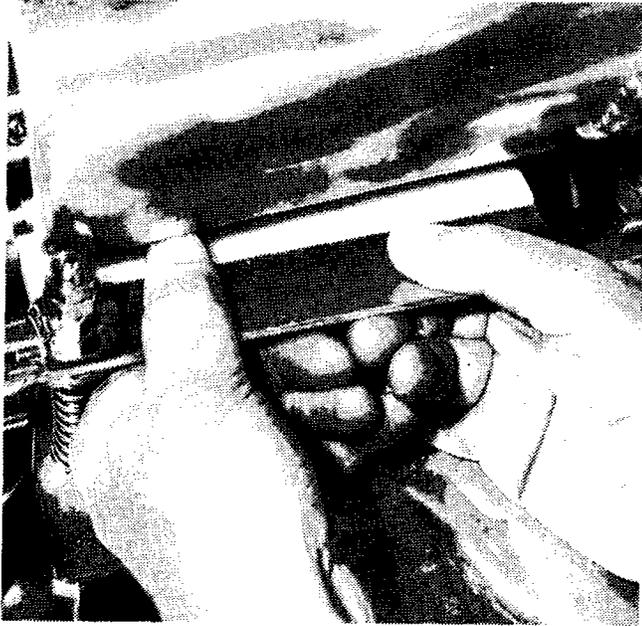

Figure 3-3. Removing Short Top Scraper and Tip.
(3) *Short top scraper and tip (6, Figure 4-1). Refer to Figure 3-3.*